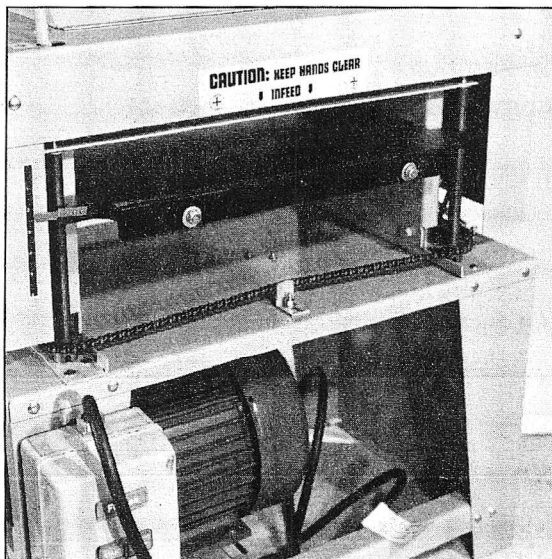

Fig. 4
1. Install two 3/8" bolts with lock and flat washers from the bolt bag through the Adjustment Bar (RB-300) into the threaded holes on both ends of the bed. Do not tighten. The bolts should extend enough from the bed to allow the mounting of the extension tables. (fig. 4)